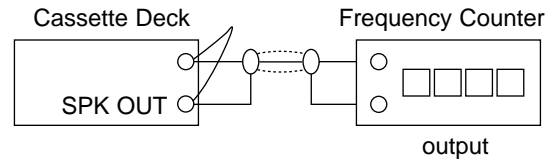

Figure 1-5
- 2) Connect the cassette deck to the frequency counter as in figure 1-5.